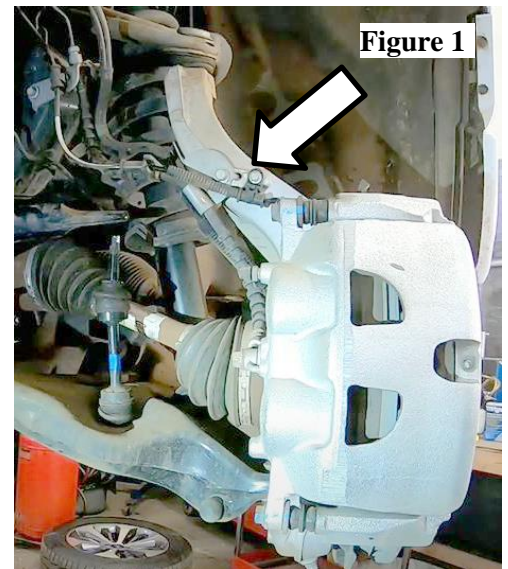

Figure 1
- 3) Remove the ABS and brake line bracket from the spindle and frame using 8mm and 10mm sockets. **(Figure 1)**